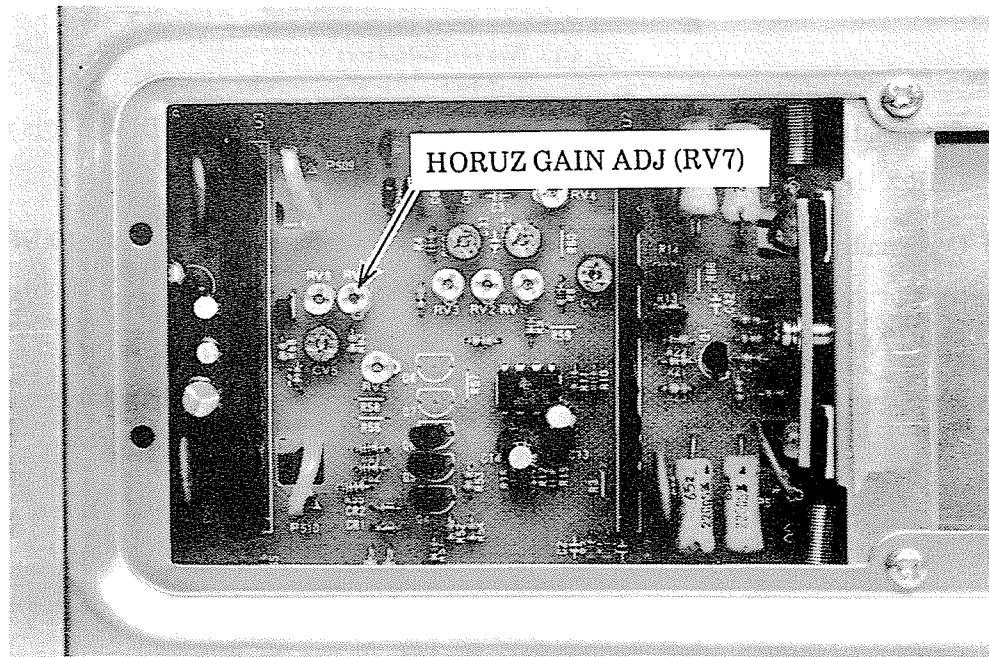

Fig. 4-12 Adjustment position of HORIZ GAIN ADJ (RV7)
- (1) Perform initial setting of the oscilloscope in accordance with Table 4-3.
- (2) Apply a 1ms time mark signal to CH1 input (terminated in 50ohms), then adjust the VOLT / DIV to get approx. 2DIV amplitude on the screen.
- (3) Confirm that the displayed period of the waveform on the CRT screen is within  $\pm 2\%$ . If it is not, adjust HORIZ GAIN ADJ (RV7) on board A5 shown in Fig. 4-12.